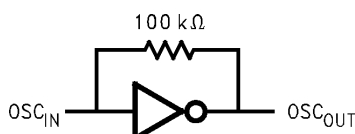

Figure 1.
- *** 50 Ω termination is often used on test boards to allow use of external reference oscillator. For most typical products, a CMOS clock is used and no terminating resistor is required. OSC_{IN} may be AC or DC coupled. AC coupling is recommended because the input circuit provides its own bias. (See Figure 1)